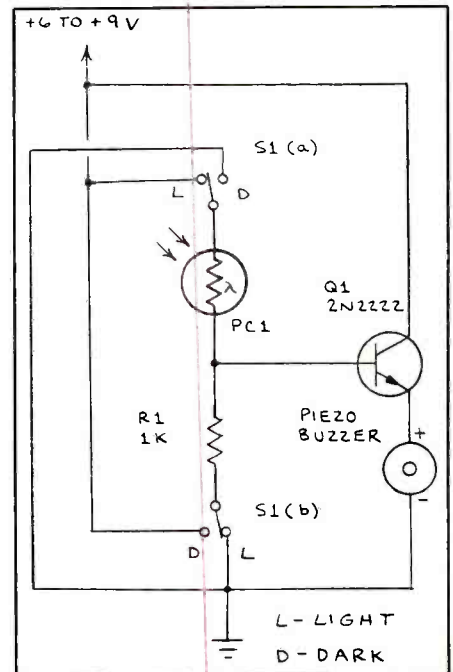

Fig. 12. A light/dark-activated relay.
• **Light/Dark-Activated Buzzer.** The circuit shown in Fig. 12 controls a piezoelectric buzzer. A dpdt switch is used for *S1*. When *S1* is in position "L" (light), the buzzer sounds when *PC1* is exposed to light. Setting *S1* to "D" (dark) causes the buzzer to sound in darkness.